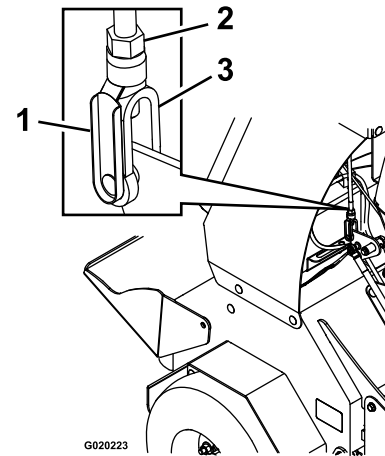

Figure 57
- Remove the spring-clevis pin from the fork fitting of the traction-control linkage (Figure 57).
- If the control lever **contacts the reference bar**, rotate the fork fitting (Figure 57) counterclockwise (as viewed from the top of the machine).
- If the control lever **does not contacts the reference bar**, rotate the fork fitting (Figure 57) counterclockwise.
- Install the spring clevis pin (Figure 57) and move the control lever forward.
- F. Remove the spring-clevis pin, rotate the turnbuckle clockwise 1-additional turn, and insert the spring-clevis pin (Figure 57).